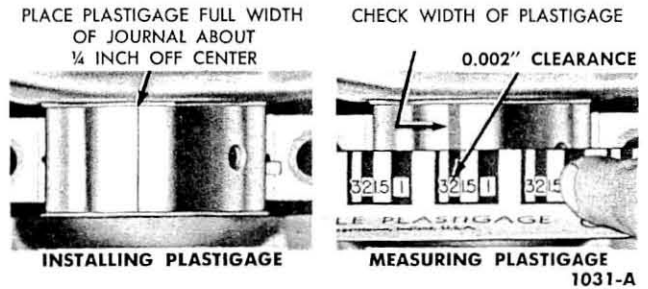

Fig. 34—Installing and Measuring Plastigage
2. Place a piece of Plastigage on the crankshaft journal the full width of the bearing cap and about ¼ inch off center (Fig. 34).
4. Remove the cap, then using the Plastigage scale (Fig. 34) check the width of the Plastigage at the widest point in order to get the minimum clearance. Check the Plastigage at the narrowest point in order to get the maximum clearance. The difference between the two readings is the taper. If the clearance is not within limits, select fit a new bearing.